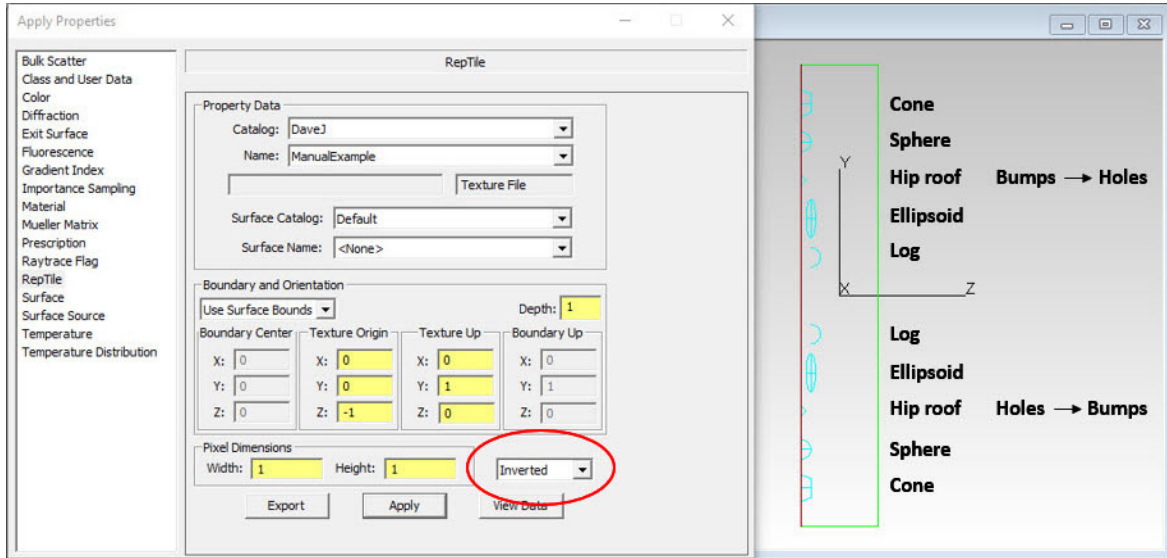

FIGURE 4.38 - Textured RepTile visualization showing the Inverted orientation for a RepTile property that originally contains Holes and Bumps.
- Figure 4.38: Inverted features, so the orientations are inverted as specified in the Texture File.